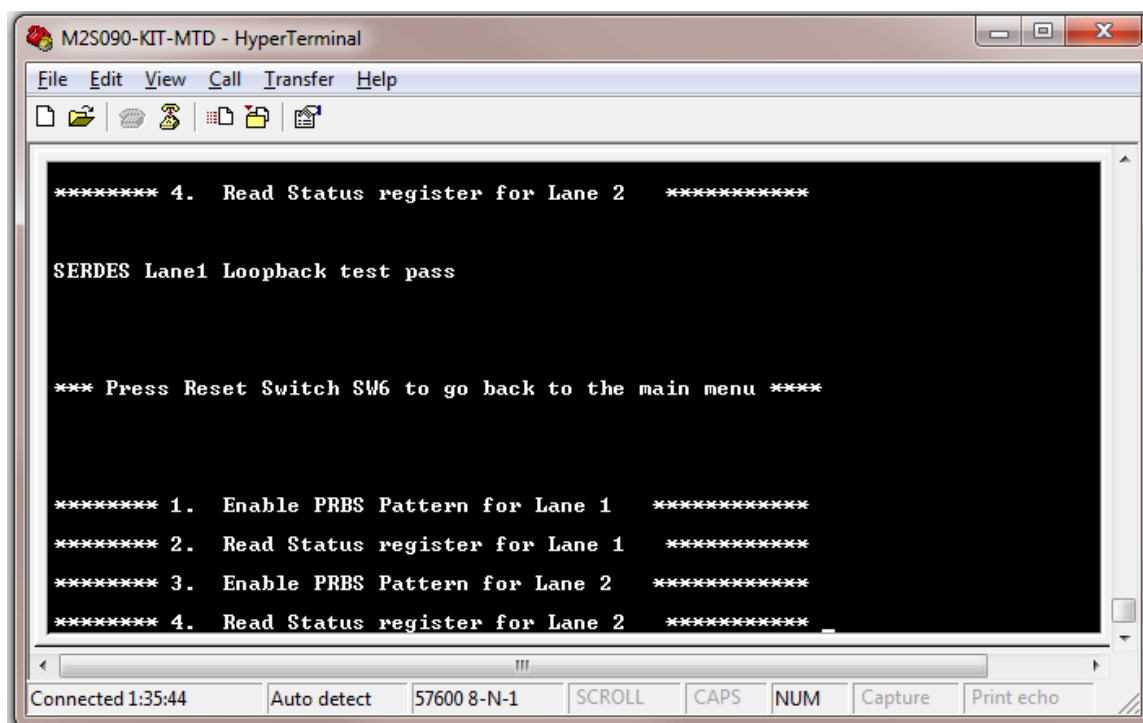

Figure 47 SERDES Lane1 Loopback Test Passed
18. When the test is started, a message is displayed. Refer to Figure 47.